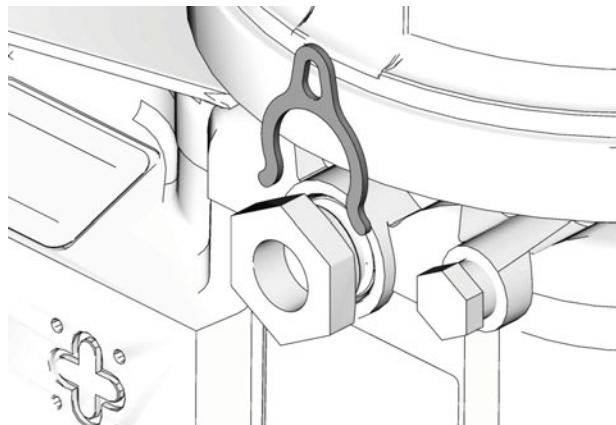

FIG. 4
- Pump volume control is set using either no (0) spacers, 1 or 2 spacers (FIG. 4).